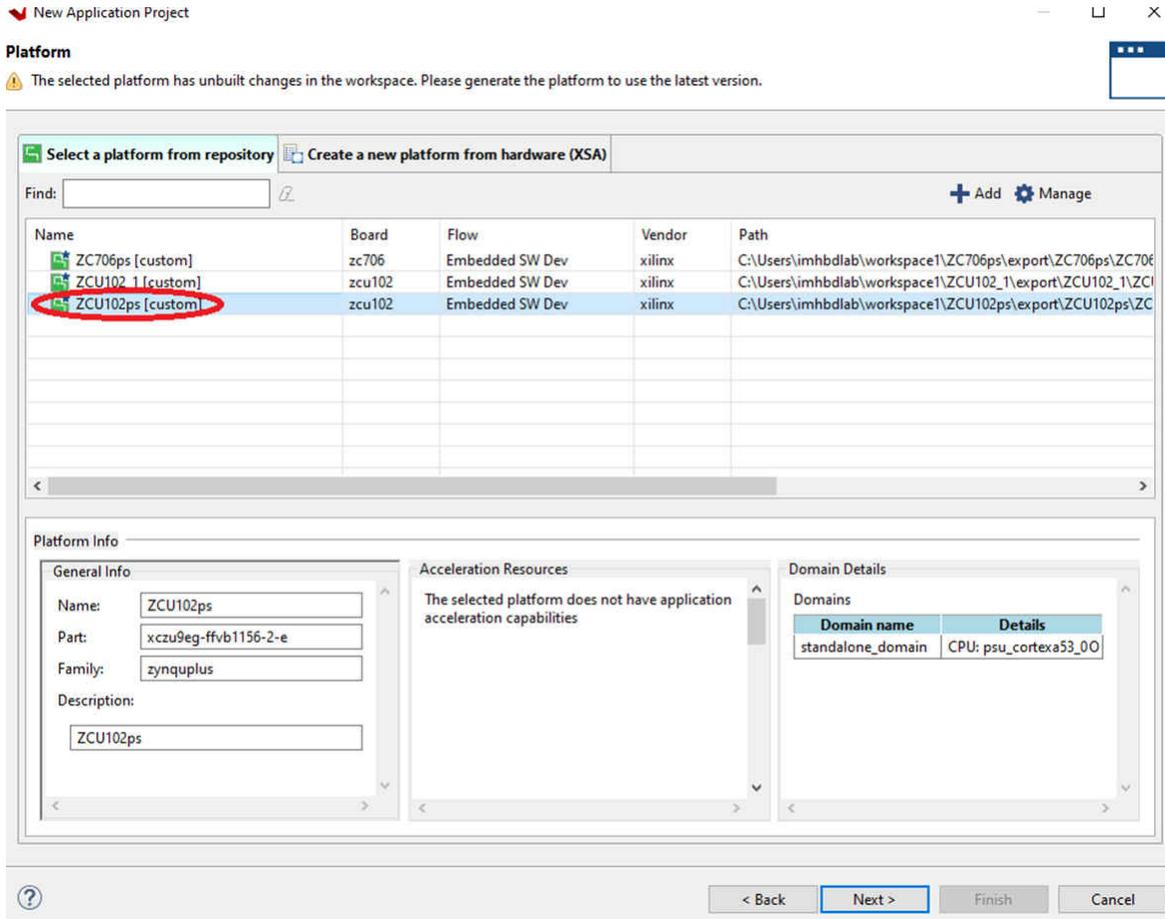

Figure 9-3. Selecting the Application Project
3. Select the newly created platform *ZCU102ps* and click *Next* (see Figure 9-3).